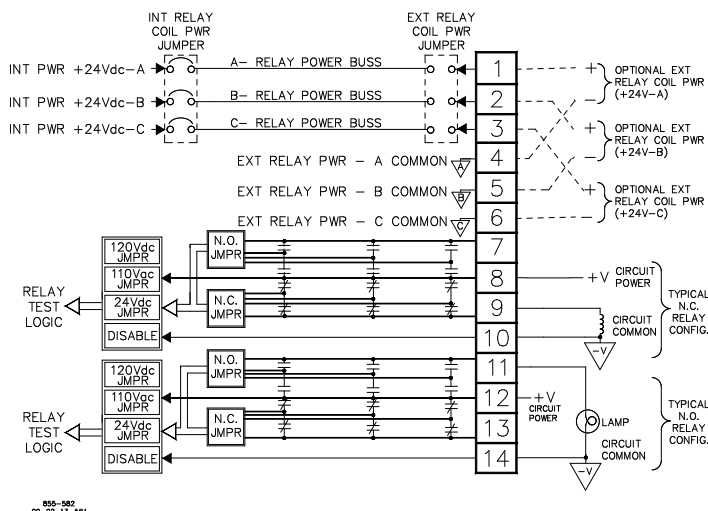

Figure 7-11. Example Relay Output Wiring Diagram
- Refer to Figure 7-11 for relay output wiring.